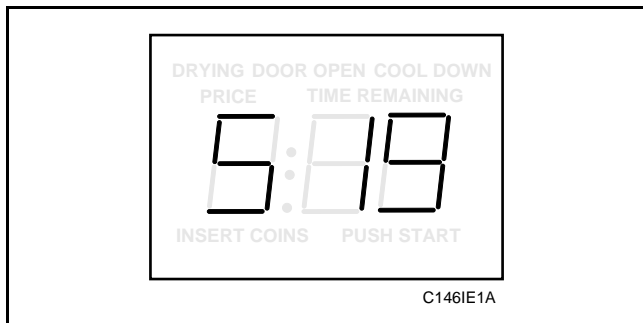

Figure 64
2. While pressing and holding the HIGH TEMP pad with one hand, press the MED TEMP pad with the other hand. Programmable option number 1, (Audio Signal “SIg”), will appear in the VFD, *Figure 64*.